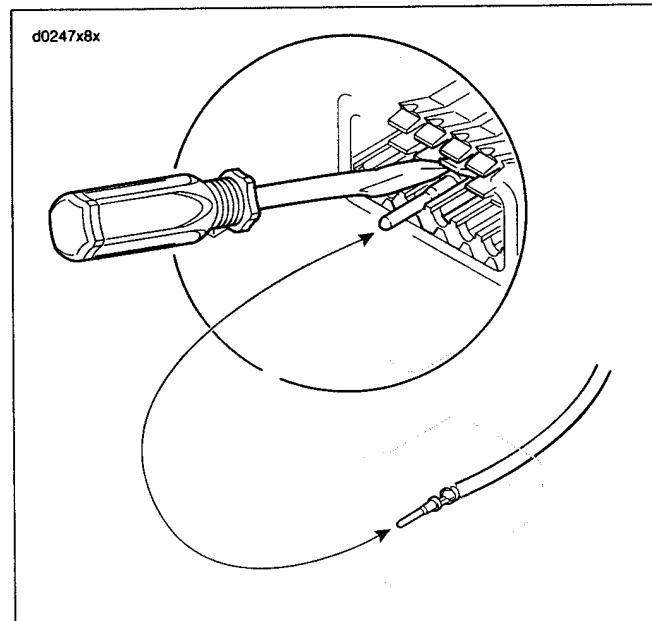

Figure B-7. Depress Terminal Latches/Back Out Pins
2. See Figure B-7. Gently depress terminal latches inside socket housing and back out sockets through holes in rear wire seal.